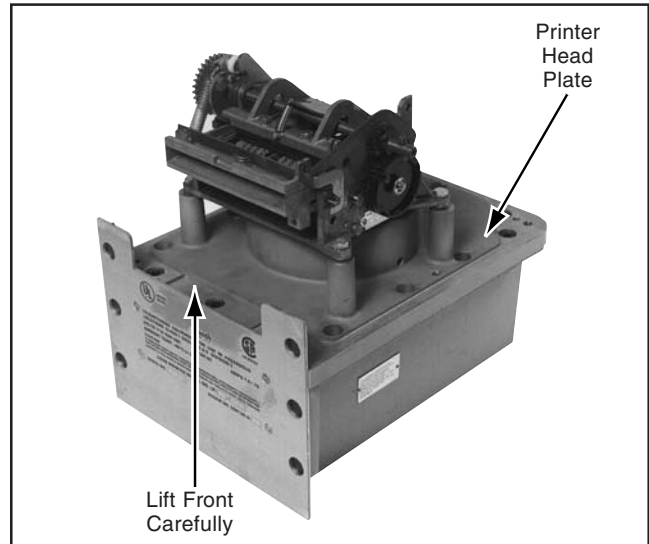

**Figure 1 — Load Printer Cover Removal**
1. Remove crank arm by removing screw in crank arm body (Figure 1).
2. Remove top cover by removing the four (4) slotted head screws located at the front and rear (Figure 1).